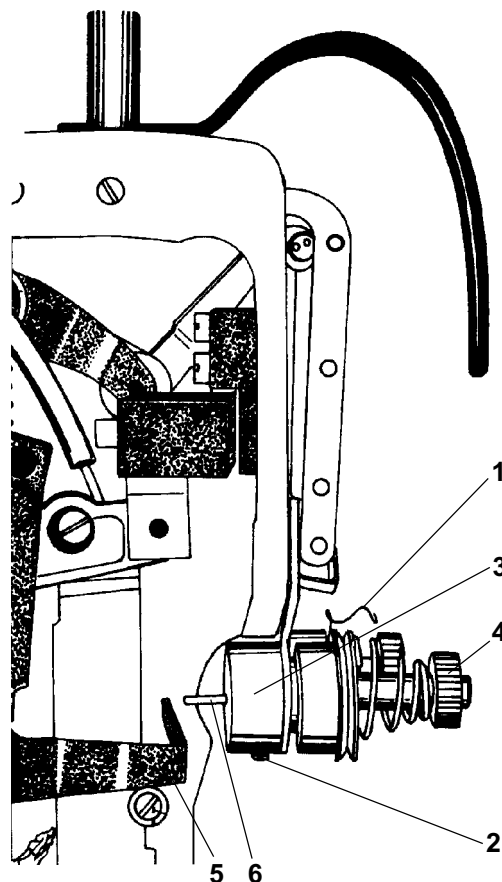

Fig. 12
15. To adjust the function of the adjusting spring (Fig. 12)
17. To adjust the opening of the upper thread tensioner (Fig. 12)